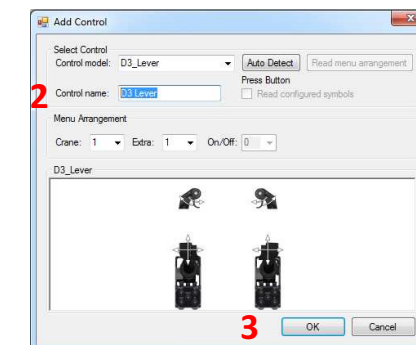

Figure 30. Change of name.
By marking and deleting the pre-set name *D3 Lever*, see Figure 30 (2) it is possible to change to an own name.